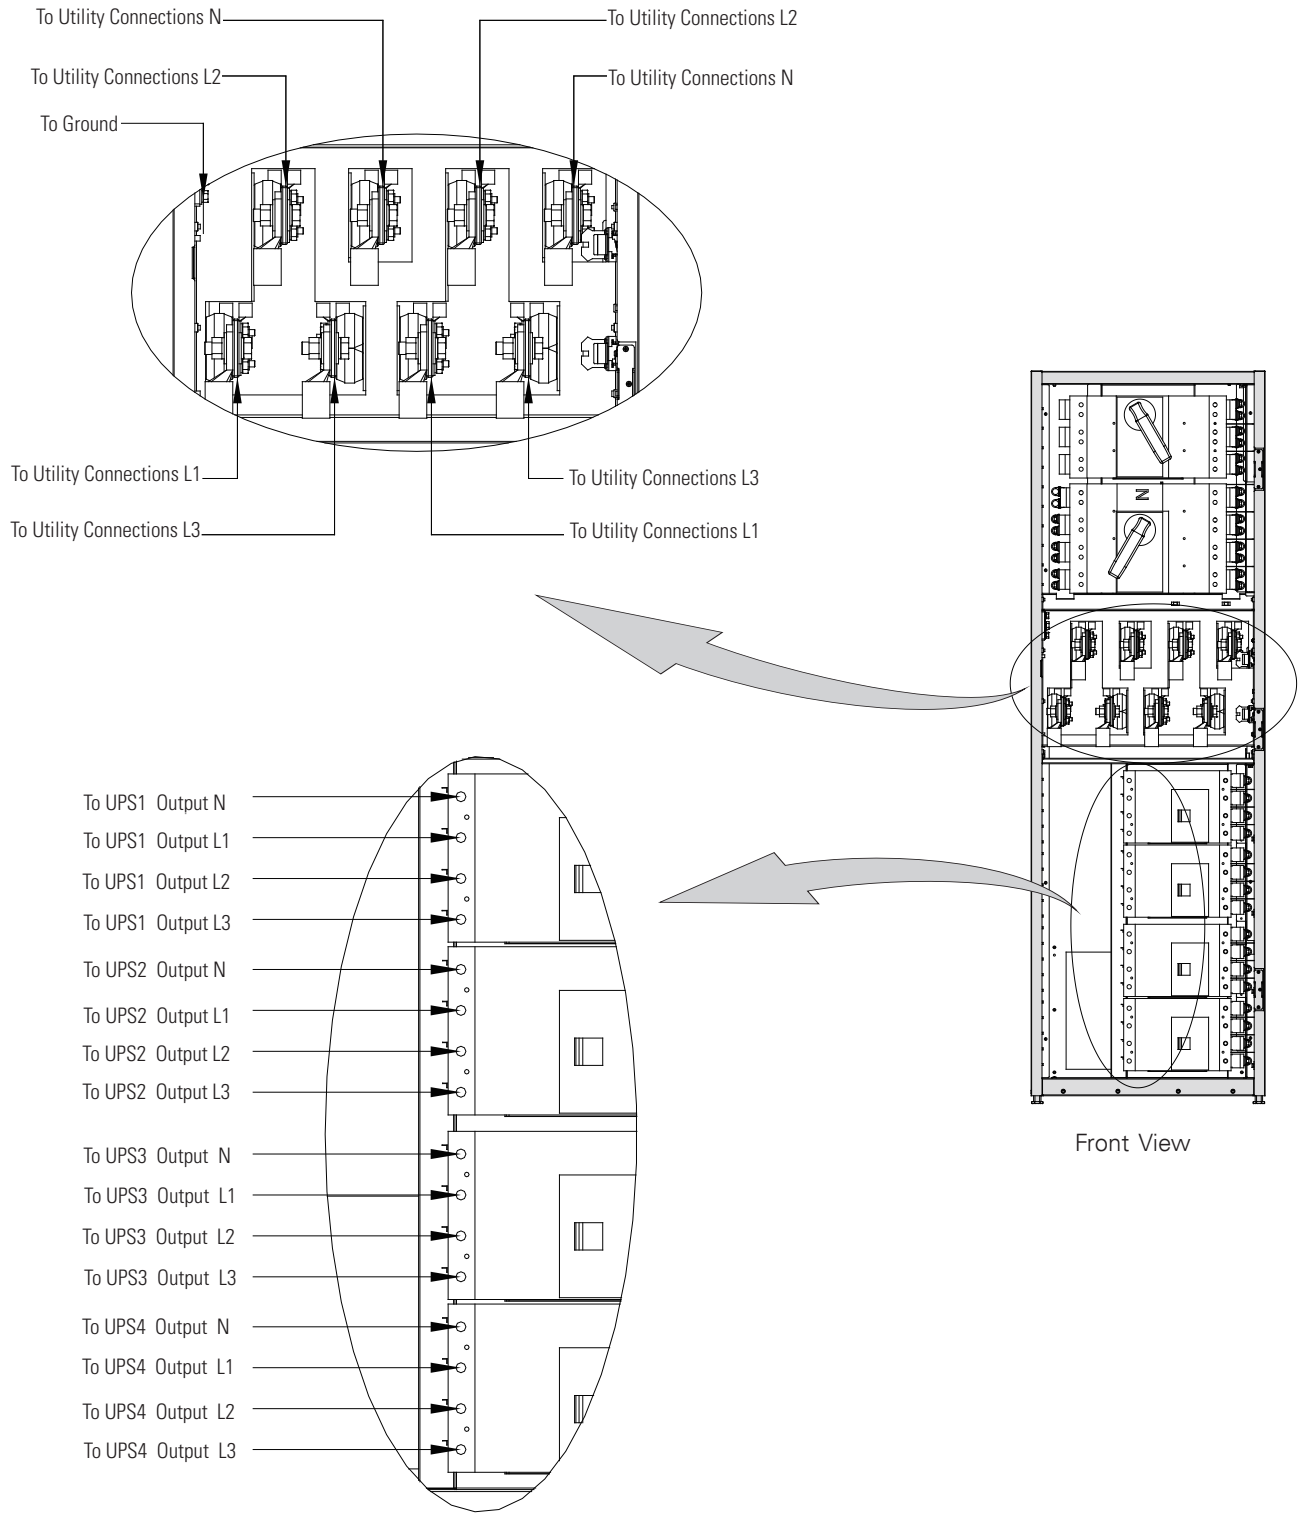

Figure 4-5. Power Terminal Locations
3. Ground the SPM according to local and/or national electrical wiring codes by routing and connecting the ground wire to the input ground lug. See Figure 4-5 for SPM terminal locations.
4. Route and connect the power cables(L1,L2,L3,N) from the utility source to the SPM phase and terminal blocks. See Figure 4-5 for wiring access information and terminal locations. See paragraph 3.2.2,Table 3-3 for wiring and termination requirements.
5. Route and Connect the power cables(L1,L2,L3,N) from the Load to the SPM phase and terminal blocks. See Figure 4-5 for wiring access information and terminal locations. See paragraph 3.2.2,Table 3-3 for wiring and termination requirements.
6. 5 Route and Connect the power cables(L1,L2,L3,N) from the UPS to the SPM phase terminal blocks. See Figure 4-5 for wiring access information and terminal locations. See paragraph 3.2.2,Table 3-3 for wiring and termination requirements.